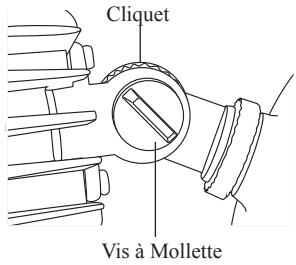

Figure 3
**MOTION SENSOR – See Figure 3**
CAPTEUR DE MOUVEMENT—Voir Figure 3